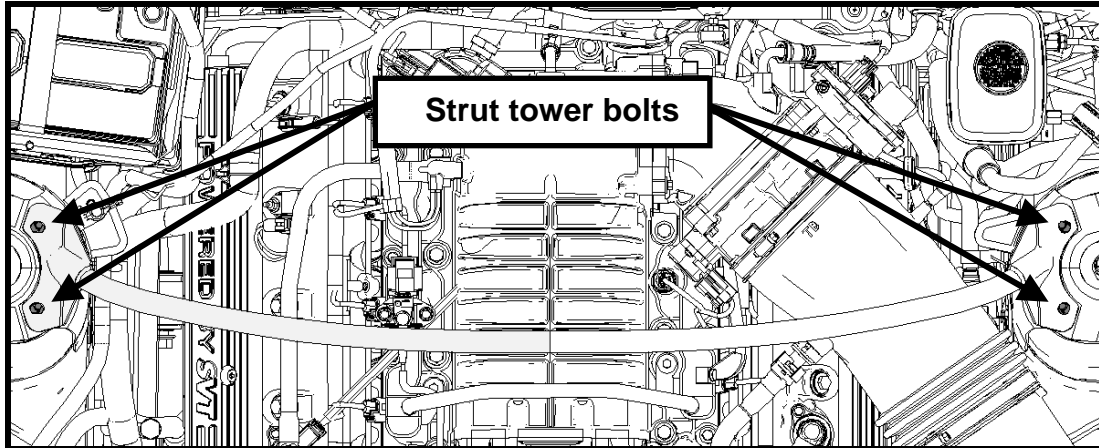

Fig. 2
STEP 4: Remove the factory strut tower brace (See Fig. 2).